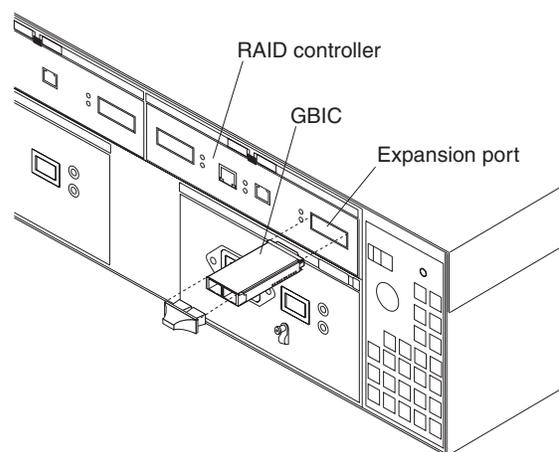

Figure 28. Installing a GBIC in a FASTt200
1. Insert a GBIC into the expansion port located on the back of a FASTt200 and remove the protective cap, as shown in Figure 28.